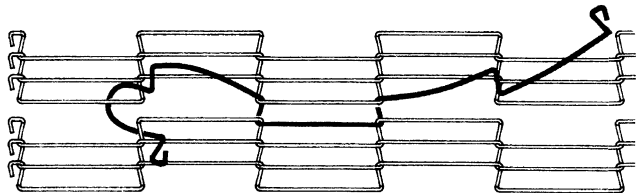

Figure 90: Hook the Splicing Link to the Other Chain
6. Using a pair of needle nose pliers, grasp one (1) end of the splicing link and insert the loop end over the belt link being spliced. Refer to Figure 90.